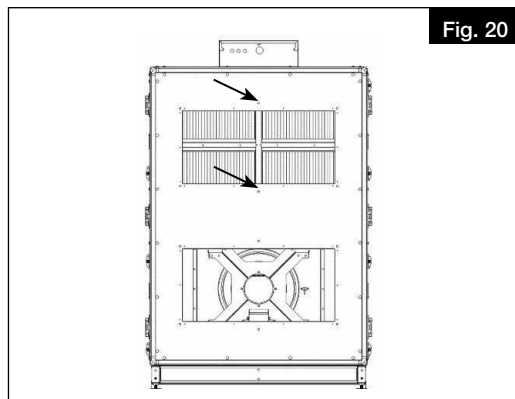

Fig. 20
- After tightening the screws, the accessory must also be fastened using the mounting brackets (see Fig. 20) for unit types AIR1 RH 5000-15000.